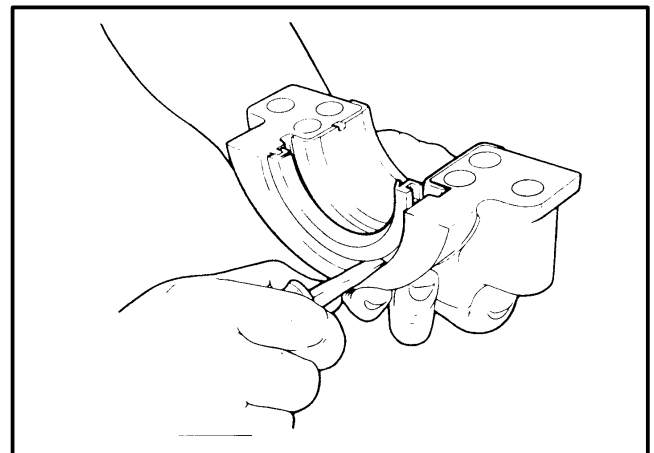

FIGURE 37. OIL SEAL, REMOVAL OF LOWER HALF
2. Use a small screwdriver to remove the lower half of the oil seal from the main bearing cap. See FIGURE 37.